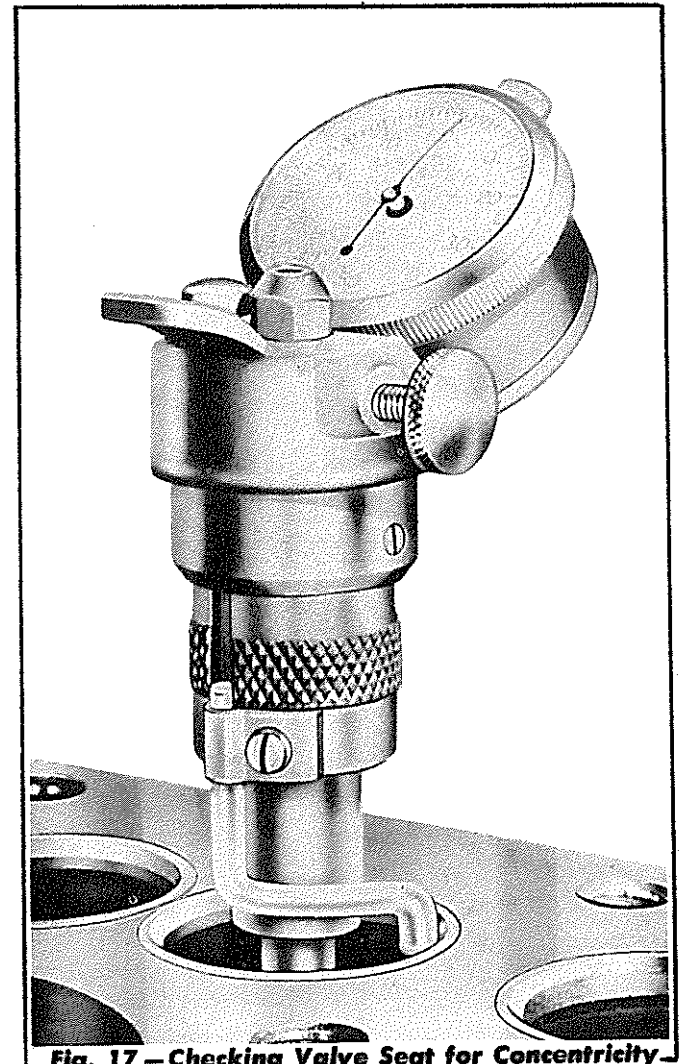

Fig. 17 — Checking Valve Seat for Concentricity
- e. Check the valve seat for concentricity with the valve guide (see Fig. 17) and, if necessary, recondition the seat or seats as directed in "VALVE AND VALVE SEAT GRINDING" in this section.
After the valve seats have been dressed with the grinding wheel, the dial gage, shown in Fig. 17, is used to check the concentricity of the valve seats relative to the valve guides. The total runout for a good valve seat should not exceed .002".